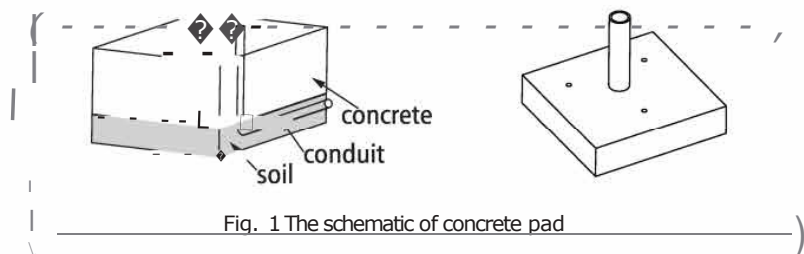

Fig. 1 The schematic of concrete pad
- First, need build the concrete pad for pedestal, the compressive strength must be over 3000psi, reference picture is shown as Fig. 1 & Fig. 2, and the concrete pad dimensions(Space: W400mm X L400mm X H500mm) is shown as Fig. 3.